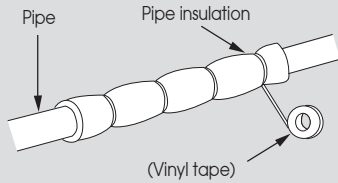

Figure 18
- Wrap the piping joints with the pipe insulation and fasten it with vinyl tape. (Figure. 18, 19)